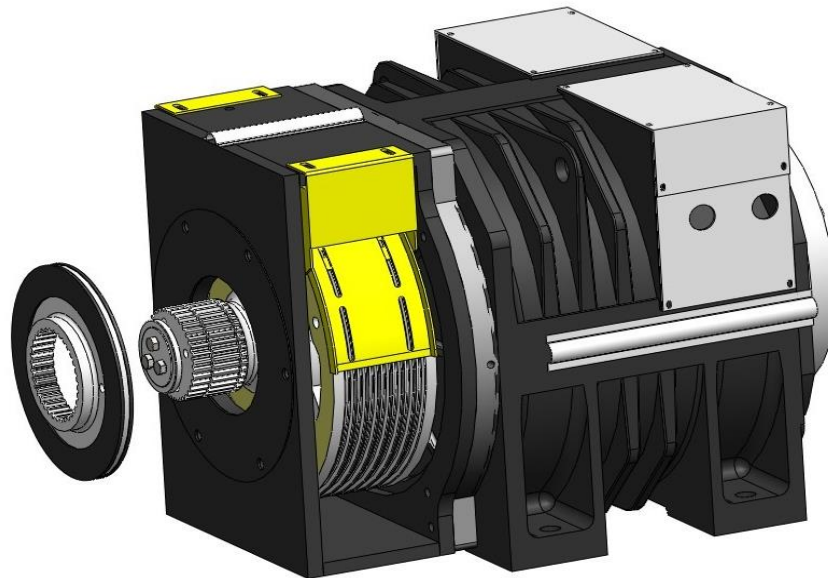

Figure 38: Installing Friction Lining Part B
3. Then install the new friction lining part B. It is OK to apply a little force using rubber hammer to press it in and move it forward through the spline (Be careful not to damage the O-ring.); make sure the friction lining part moves easily. See Figure 38.